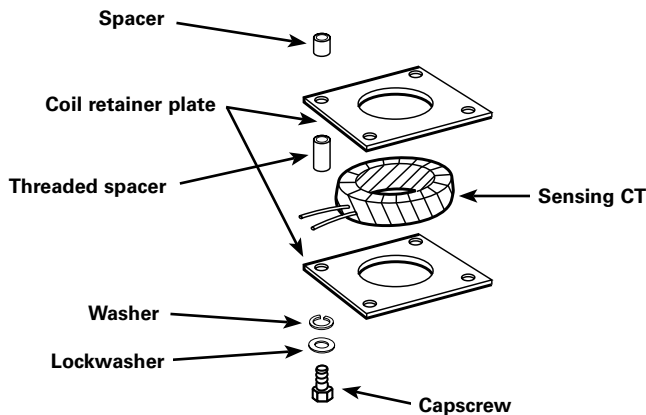

Figure 17. Current sensing transformer replacement
1. Connect sockets G, H and J of the control cable receptacle in series with jumper leads as indicated in Figure 17. The jumper leads connect the secondaries of the current transformers in parallel so that total output current, measured at points K and J, should be 300 mA, 150mA when testing 2000:1 ratio CTs.
To replace a damaged current sensing transformer proceed as follows, refer to Figure 17.